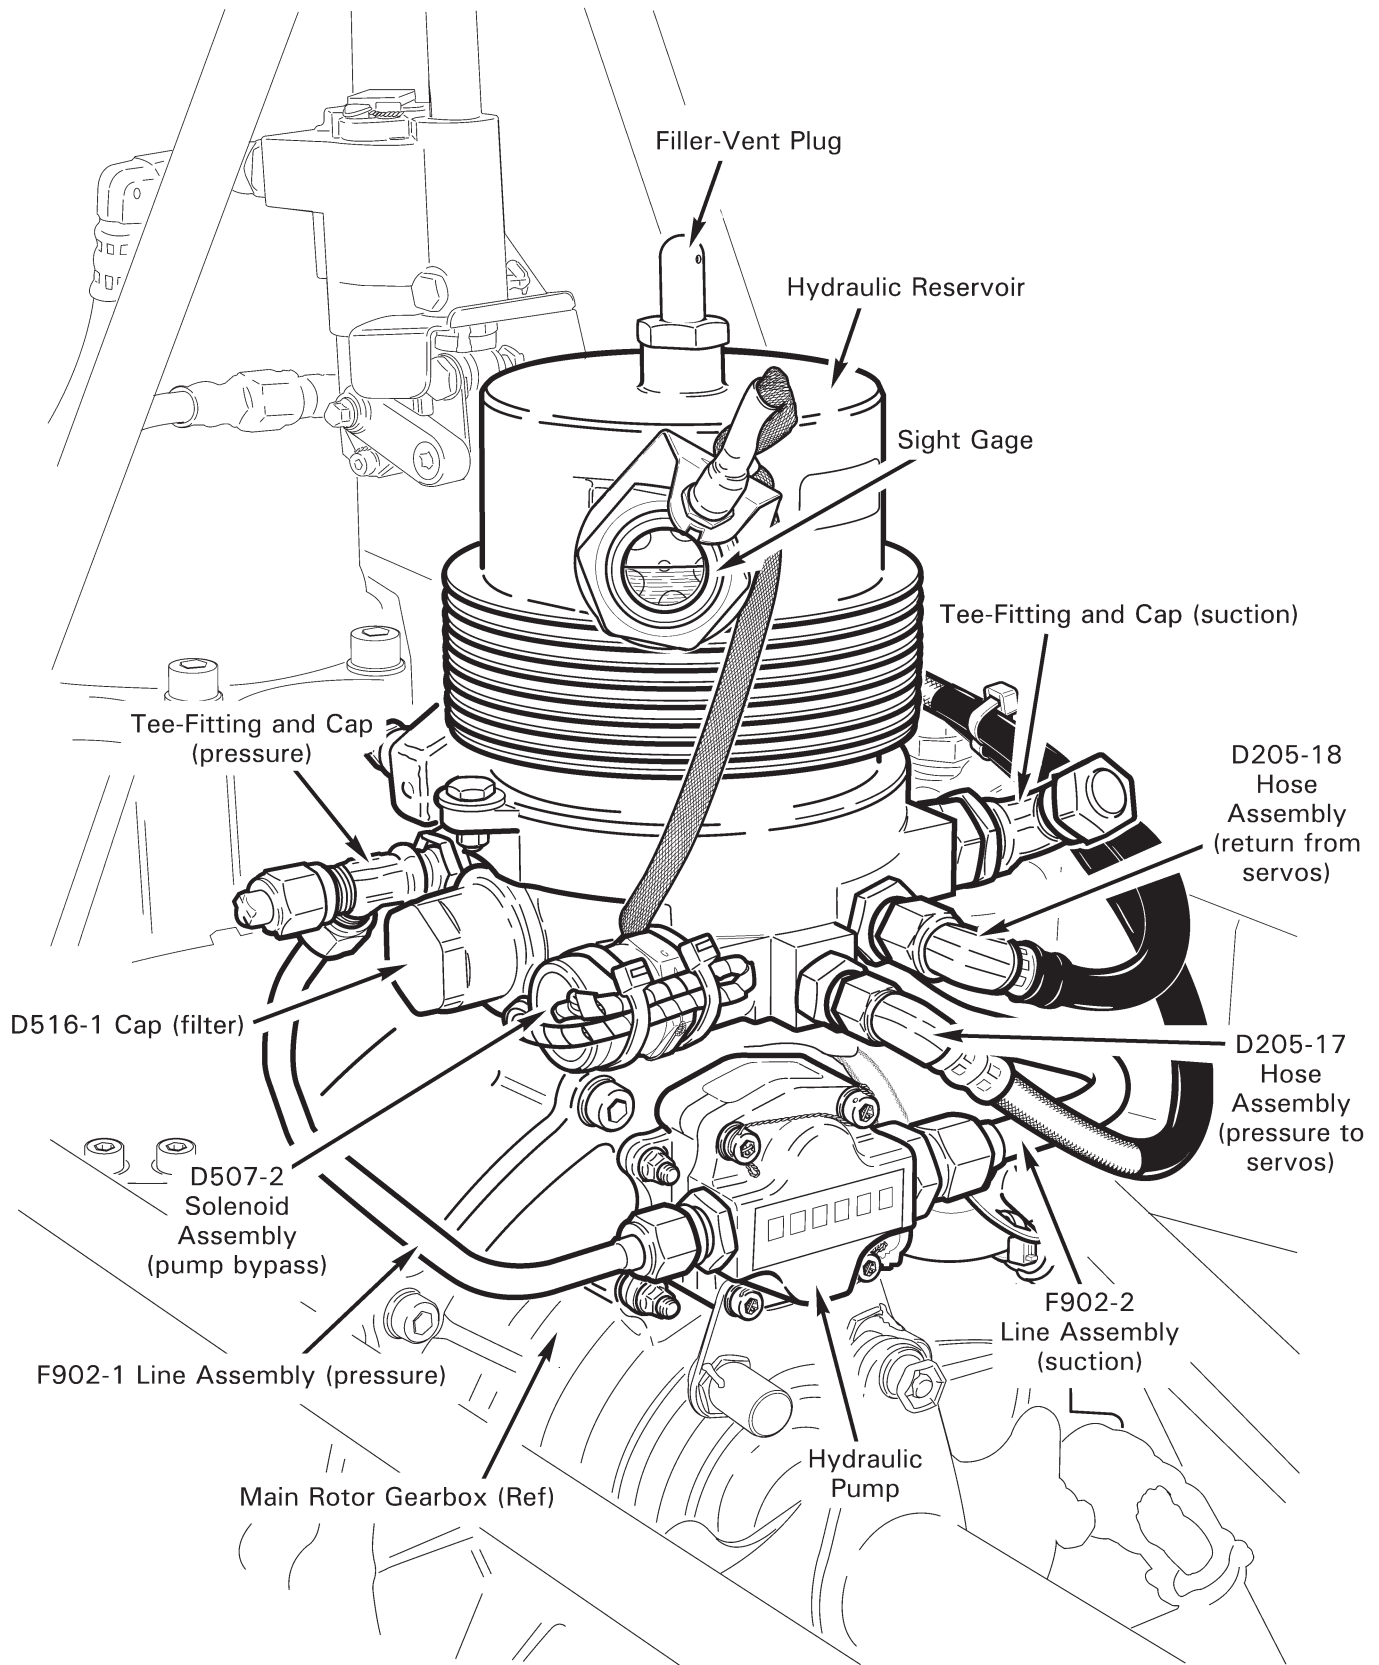

FIGURE 12-4 HYDRAULIC SYSTEM
1. Refer to Figure 12-4. Remove filler-vent plug. With system filled and bled, fill hydraulic reservoir to center of sight glass with new A257-15 fluid.
1. Refer to Figure 12-4. Remove D516-1 cap and filter and visually inspect element for contaminants. If element is clear, proceed to step 3. If metal contamination is found, use a magnet to determine if metal is ferrous. If metal is ferrous, perform the following:
1. Refer to Figure 12-4. Remove filler-vent plug. Place a suitable drain container under F902-1 (pressure) and F902-2 (suction) line assembly T-fittings, and remove caps. Pour small amount of new A257-15 fluid into hydraulic reservoir to purge suction line. Pressure line will drain in following step, when D516-1 cap is removed.